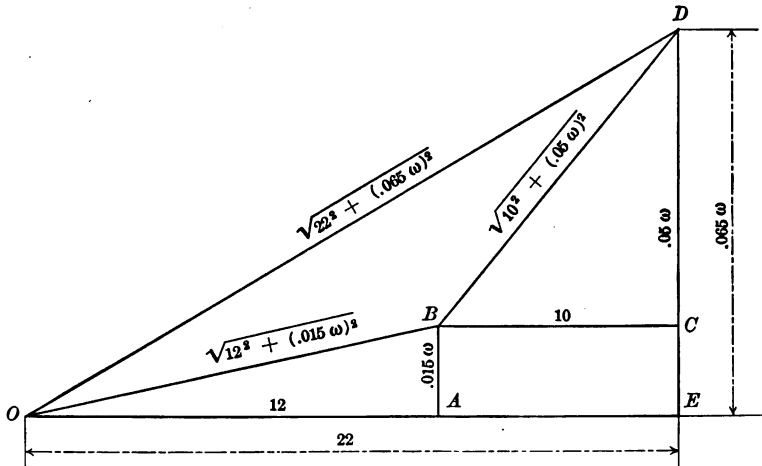

FIG. 14
**SUGGESTION.**— $2\pi n = \omega = 251.3$ . Draw  $OA$  (Fig. 14) = 12,  $AB$  perpendicular to it =  $.015\omega$ . Then  $OB = \sqrt{12^2 + (.015\omega)^2}$  = impedance of the first section. Draw  $BC$  parallel to  $OE = 10$ ,  $CD$  perpendicular to it =  $.05\omega$ . Then  $BD = \sqrt{10^2 + (.05\omega)^2}$  = impedance of the second section. Draw  $OD = \sqrt{(10 + 12)^2 + (.015 + .05)^2\omega^2}$  = impedance of the circuit.
**NOTE.**—From an inspection of Fig. 14 it is evident that two or more reactances, and therefore two or more inductances, in series may be combined by simple addition, as is the case with resistances. The resultant impedance of two or more impedances in series is, however, the vector sum.